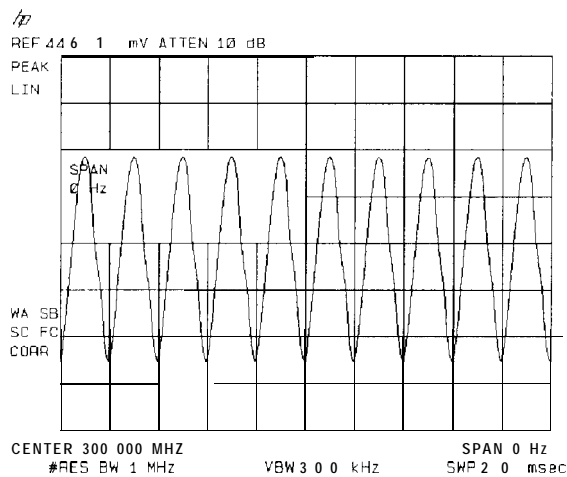

Figure 3-27. Measuring Modulation in Zero Span
5. To select zero span, either press (SPAN), 0 **Hz** or press ZERO SPAN . See Figure 3-27. If the modulation is a steady tone (for example, from a signal generator), use video trigger to trigger on the waveform and stabilize the display. Adjust the sweep time to change the horizontal scale.